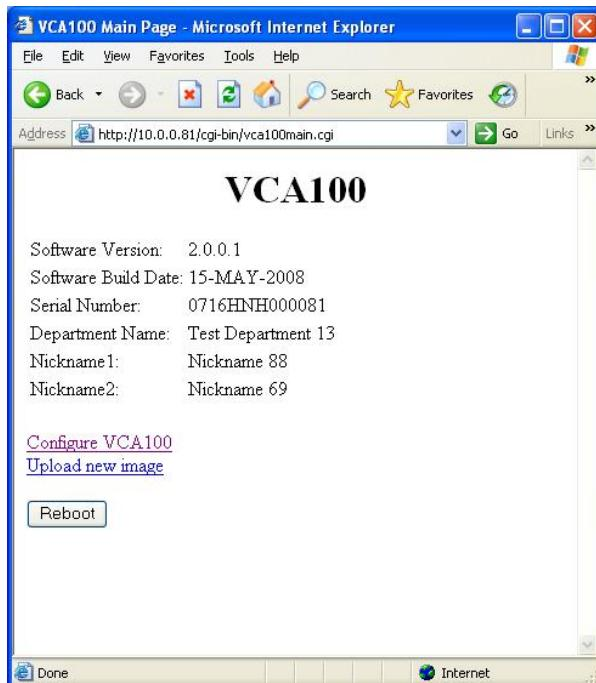

Figure B-1.2 VCA Manager Configuration Tool
8. If the VCA100 software requires upgrading, click on *Upload* new software image at the main VCA100 Internet Explorer window (Figure B-1.2). Log in with name and password then click on *Browse* and navigate to the location of the new software file.